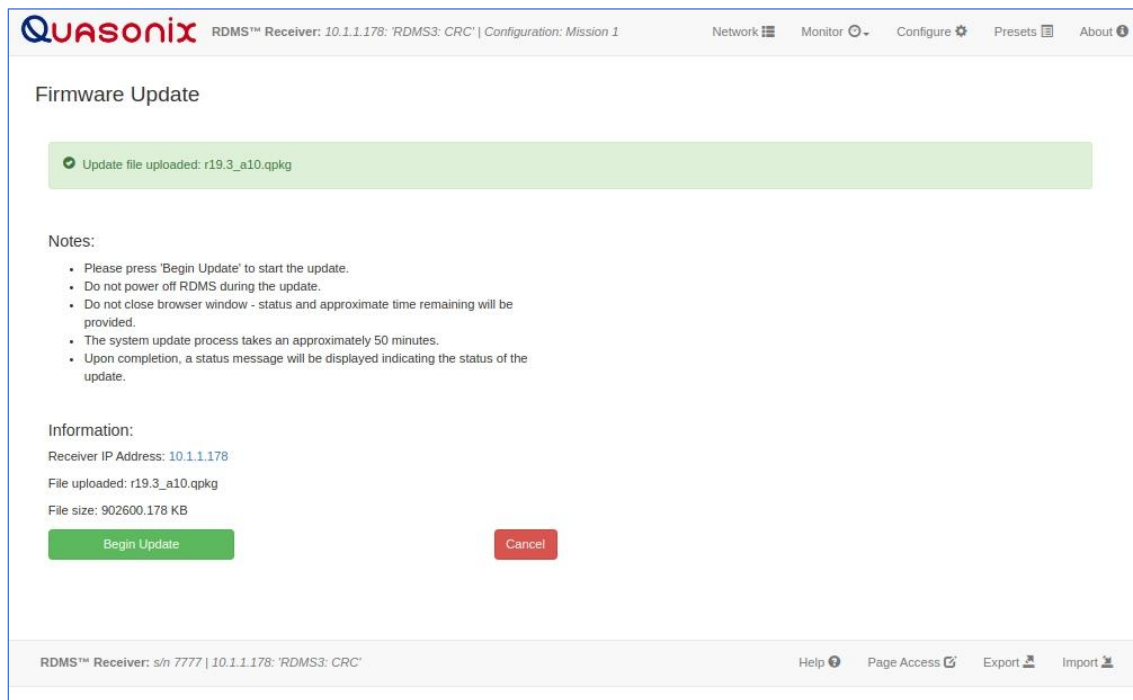

Figure 142: Firmware Update, File Selected—Ready to Update
7. After the file has been transferred, review the updated Notes, as shown in Figure 142.